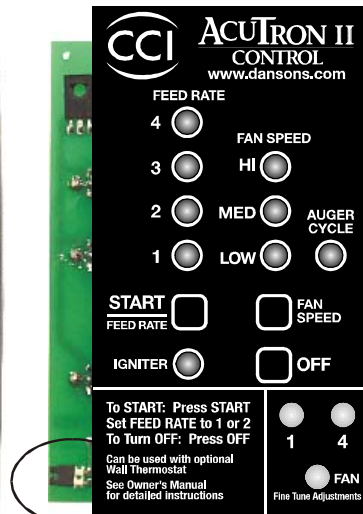

figure 32
8. Remove the black two prong jumper, (see figure 32), located on the front, left hand side, near the bottom corner and reconnect it to only one of the posts. (see figure 33).
IMPORTANT: IF THE WALL THERMOSTAT PROVIDED IS NOT USED, THE JUMPER IS REQUIRED FOR THE STOVE TO OPERATE IN MANUAL MODE (SEE FIGURE 32).